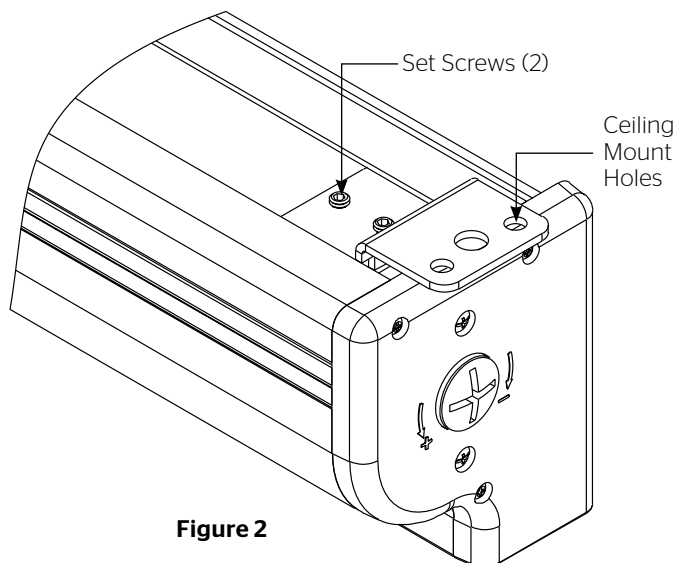

Figure 2
3. The top of the screen case has a channel that the ceiling mount brackets slide into. Loosen the two set screws on the brackets and slide bracket so it extends over the end of the case. Lock the brackets in place by tightening two set screws. Refer to Figure 2. Mount cannot be more than 12" from end of case.
Use a large flat screwdriver to turn the adjustment knob on the right end of the screen (see Figure 2 or 3). To increase the travel speed turn counterclockwise. To decrease the travel speed turn clockwise. Adjustments should be made in half turn increments and travel speed checked before adjusting further.